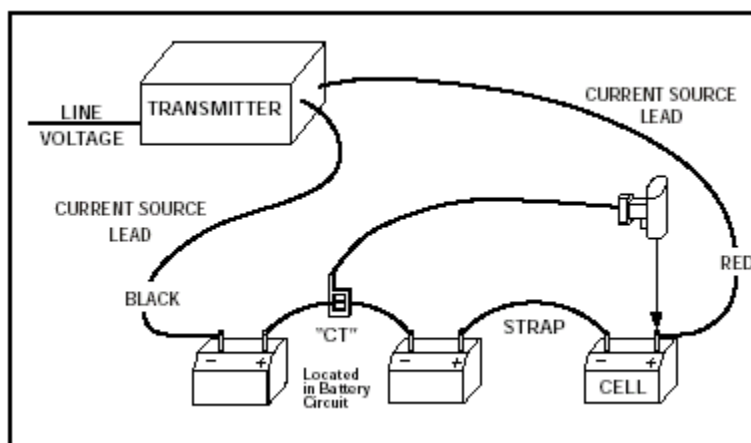

Figure 2
9. Connect all leads, red to the (+) bus and black to the (-) bus. **For consistent results make the current source lead connections to the cable, lug or terminal plate that connects to the battery terminals.** See Figure 2.